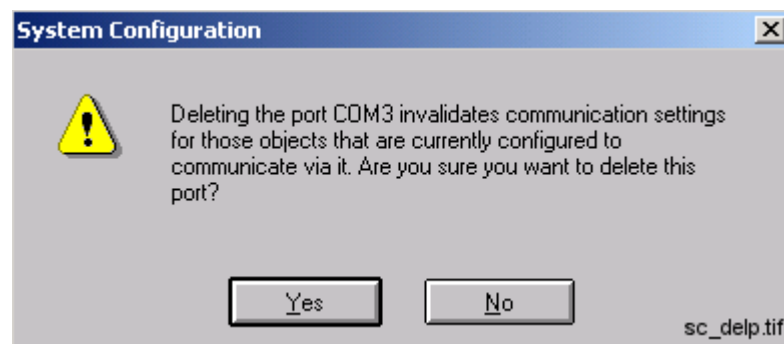

Fig. 5.4.3.4.-1 Confirm to delete the selected serial port
3. When prompted to confirm the deletion (see Figure 5.4.3.4.-1), click Yes to delete the serial port. Otherwise click No to leave the serial port intact.